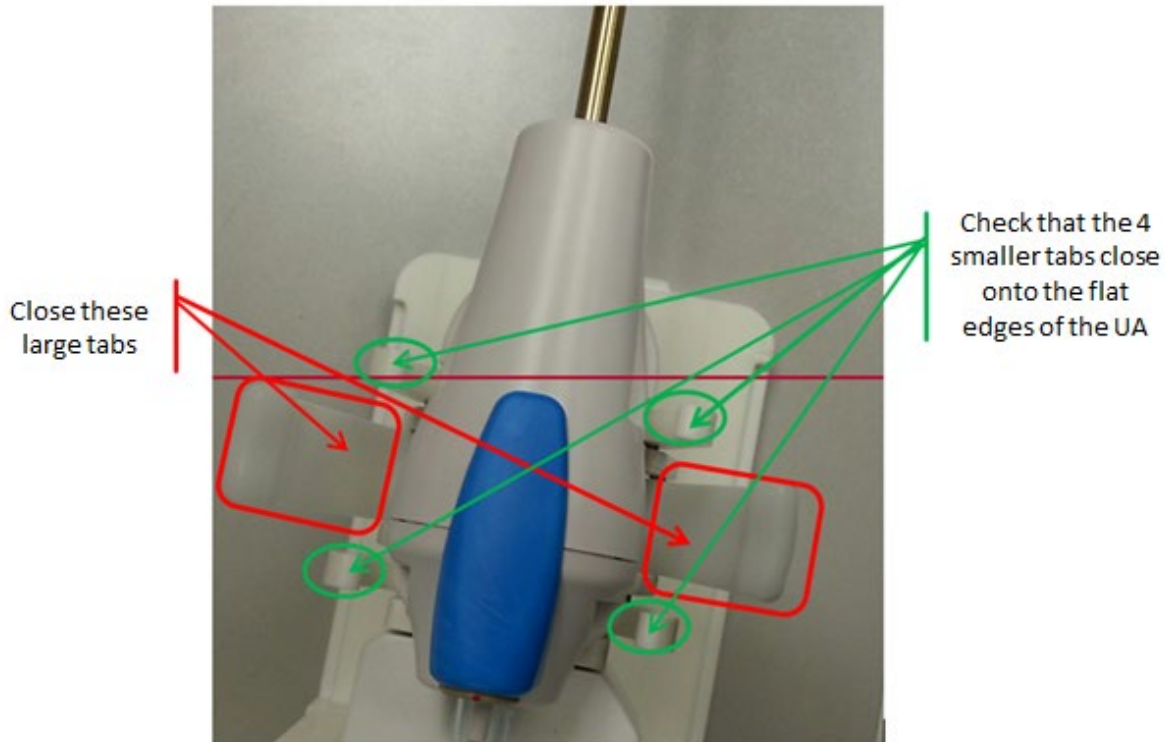

Figure 23: UA resting on PS with UA handle sitting in UA gripper
4. **MRI Technologist:** Capture the UA handle in the UA gripper of the PS (Figure 23). Ensure that the UA is not being 'forced' into position. If so, release the UA from the UA gripper and adjust the PS axes to achieve better alignment with the UA. Ensure the up-and-down and tilt-release knobs on the PS are locked before securing the UA in the gripper of the PS.